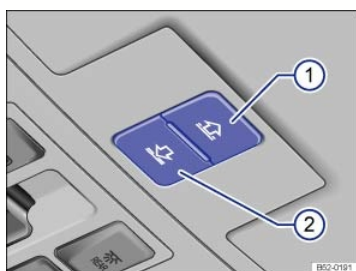

Fig. 103 In the roof console: Buttons for the power sunshade.
The buttons ⇒ Fig. 103① and ② have two detents.
- Within about 5 seconds after the sunshade has stopped, press and hold button → *Fig. 103* ② until the power sunshade closes completely.